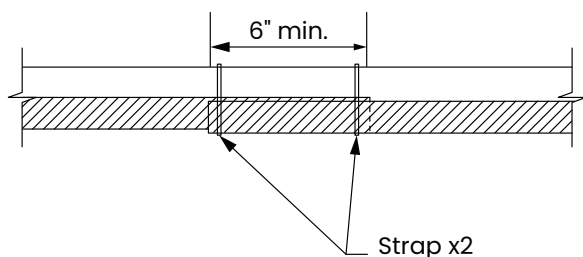

Figure 48: Strapping overlaps
Uponor PEX-a Pipe Support is secured to the bottom of the PEX pipe using the three (3) included straps. The straps are nylon and feature a 120-lb. tensile rating. If the straps are misplaced, use straps of equal or greater strength in their place. Straps should be spaced every 3 feet (0.9 m) maximum. Refer to **Figure 48** for strapping at overlaps.